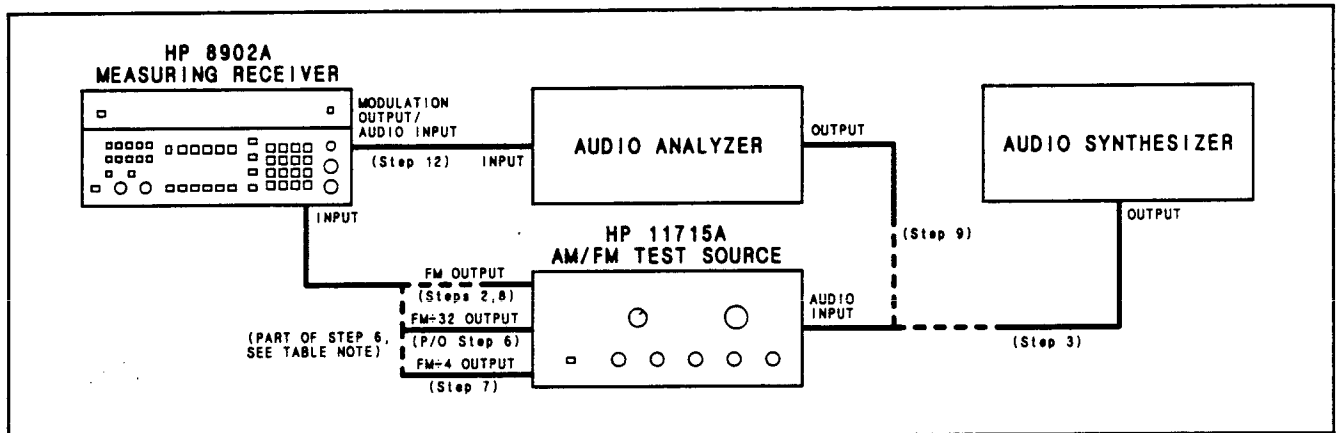

Figure 4-3. Φ M Performance Test Setup
2. On the AM/FM test source, set the test mode to FM. Connect its FM output to the Measuring Receiver's INPUT. (See Figure 4-3.)
3. Set the audio synthesizer to 200 Hz at -10 dBm. Connect its output to the audio input of the AM/FM test source. (See Figure 4-3.)
* Connect the FM÷32 output of the AM/FM test source to the Measuring Receiver's INPUT to make this measurement. (See Figure 4-3.) Press AUTOMATIC OPERATION, then MHz to return the Measuring Receiver. If the resolution is not 0.001 rad, press Φ M again.
7. On the Measuring Receiver, key in 3.1 SPCL to set the IF to 455 kHz. Press FM. On the AM/FM test source, connect the FM÷4 output. (See Figure 4-3.) Set the audio synthesizer frequency as shown in the following table. Set the Measuring Receiver High Pass Filter as shown in the table. Set the audio synthesizer level to give the FM deviation shown in the table. After setting each FM deviation, press Φ M. For each setting, the Measuring Receiver's display should read between the limits indicated in the table.
- Connect the FM output of the AM/FM test source to the Measuring Receiver's INPUT. (See Figure 4-3.) Press AUTOMATIC OPERATION on the Measuring Receiver.
- Set the audio analyzer's oscillator to 1 kHz. Connect its output to the audio input of the AM/FM test source. (See Figure 4-3.)
12. Connect the audio analyzer's input to the Measuring Receiver's MODULATION OUTPUT/AUDIO INPUT. (See Figure 4-3.) Set the audio analyzer to measure the distortion on the 1 kHz signal at the MODULATION OUTPUT/AUDIO INPUT. Set the high-pass filter on the audio analyzer to 400 Hz. The distortion should be 0.1% (-60 dB) or less.